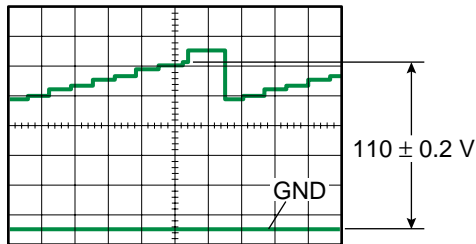

Fig. 4-1
- Adjust the Increment Button (+) or Decrement Button (-) so that G Pedestal becomes 110 ± 2 V as shown in Fig. 4-1.